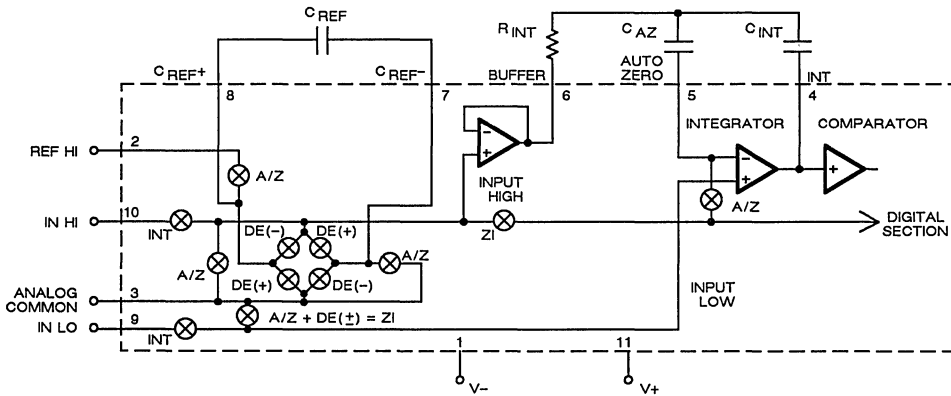
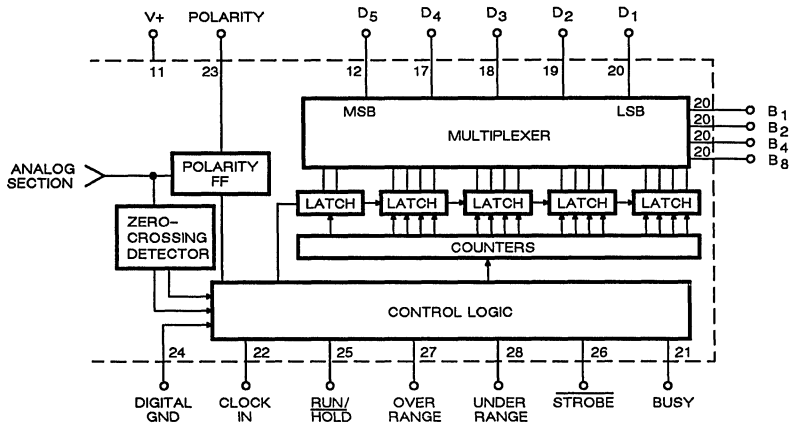

Figure 3. Analog Section of the SI7135
Figure 5. Digital Section
Figure 3 shows the block diagram of the analog section for the Si7135, figure 5 shows the digital section, and figure 6 shows the timing diagram. Each measurement cycle is divided into four phases. They are (1) AUTO-ZERO (AZ), (2) SIGNAL INTEGRATE (SI), (3) REFERENCE INTEGRATE (RI) and (4) ZERO INTEGRATOR (ZI).
1. **AUTO-ZERO (AZ) PHASE:** First, input high and low are disconnected from the pins and internally shorted to analog COMMON. Second, the reference capacitor is charged to the reference voltage. Third, a feedback loop is closed around the system to charge the auto-zero capacitor  $C_{AZ}$  to compensate for offset voltages in the buffer amplifier, integrator, and comparator. Since the comparator is included in the loop, the AZ accuracy is limited only by the noise of the system. In any case, the offset referred to the input is less than  $10 \mu\text{V}$ .
2. **SIGNAL INTEGRATE (SI) PHASE:** During this phase, the auto-zero loop is opened, the internal short is removed, and the internal input high and input low nodes are connected to the external pins. The converter then integrates the differential voltage between IN HI and IN LO for a fixed time. This differential voltage can be
Figure 5 shows the digital section of the Si7135. The Si7135 includes several pins which allow it to operate conveniently in more sophisticated systems. These include: